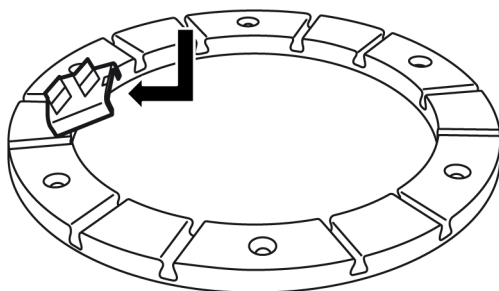

Figure 4-2. Fitting grinding tools
1. Slide the grinding tool diagonally from above down into the appropriate guide slot on the tool holder. Then push the tool fully into the guide slot, see Figure 4-2, page 16.
2. Slide the grinding tool diagonally, from above, down into the appropriate guide slot on the tool holder, see Figure 4-2, page 16. Then push the tool fully into the guide slot.